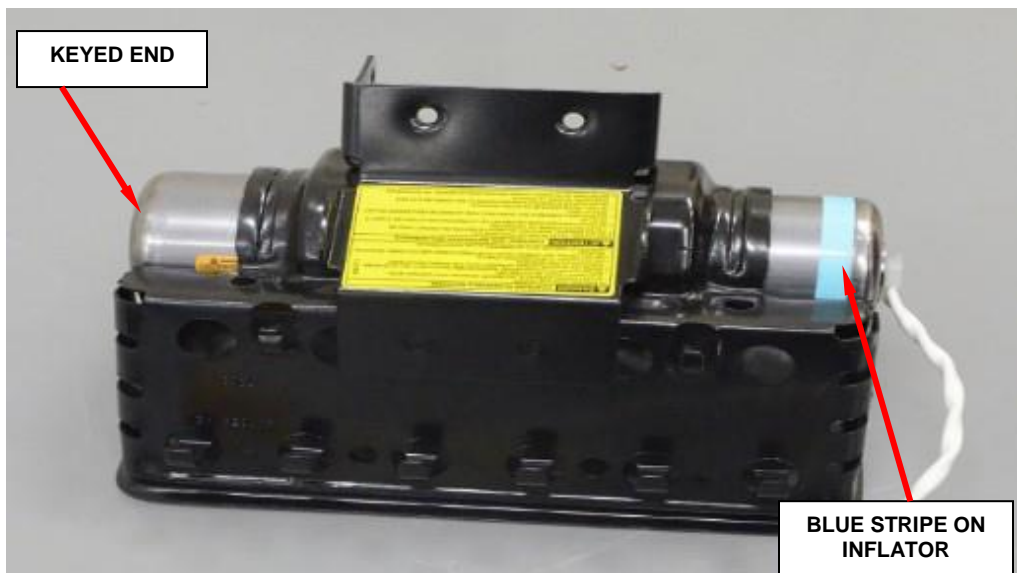

Figure 28 – Insert Inflator
- k. Slide **new** inflator into housing. The keyed end is inserted first, therefore the blue stripe on the inflator will be located at the open end, as shown (Figure 28).